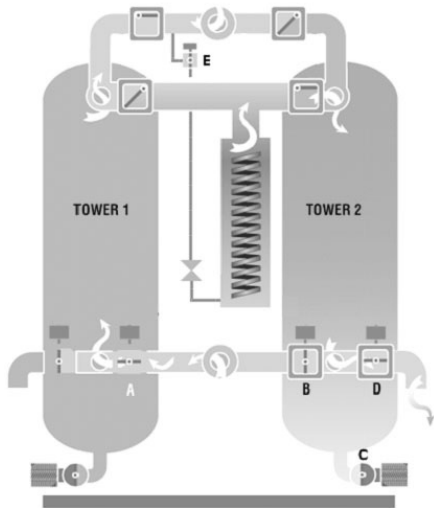

Figure 4
1. Left Tower Drying – Right Tower Regenerating (See Figure 4)